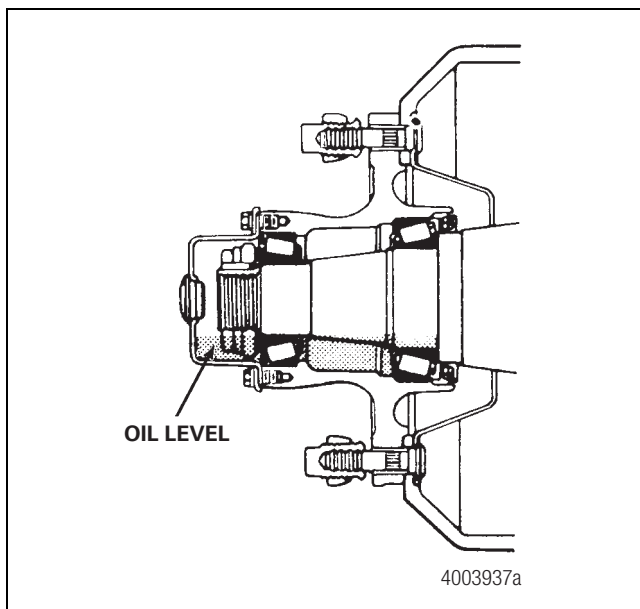

Figure 48
9. Recheck the level on the cap. If the oil level is not at the specified level on the cap, remove the fill plug. Add the specified oil until the oil is at the correct level. Figure 48.